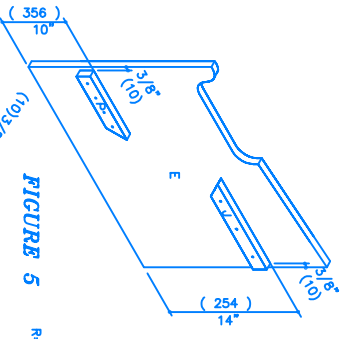

FIGURE 5
- 4) Nail P and J to E as shown (Fig 5) with glue and 1 1/4" finishing nails. Wipe off excess glue.